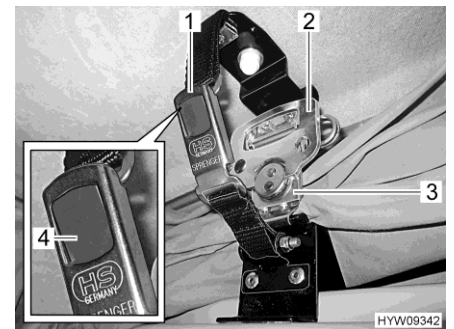

Fig. 49 Lock (elevating roof)
- Open the snap lock (Fig. 49,1) on both sides. In order to do this, press the grey push button (Fig. 49,4).
- On each side, fold out the handle (Fig. 49,2) of the quick-action turnbuckle (Fig. 49,3) and turn half a turn in an anticlockwise direction. Thus, the lock is released.